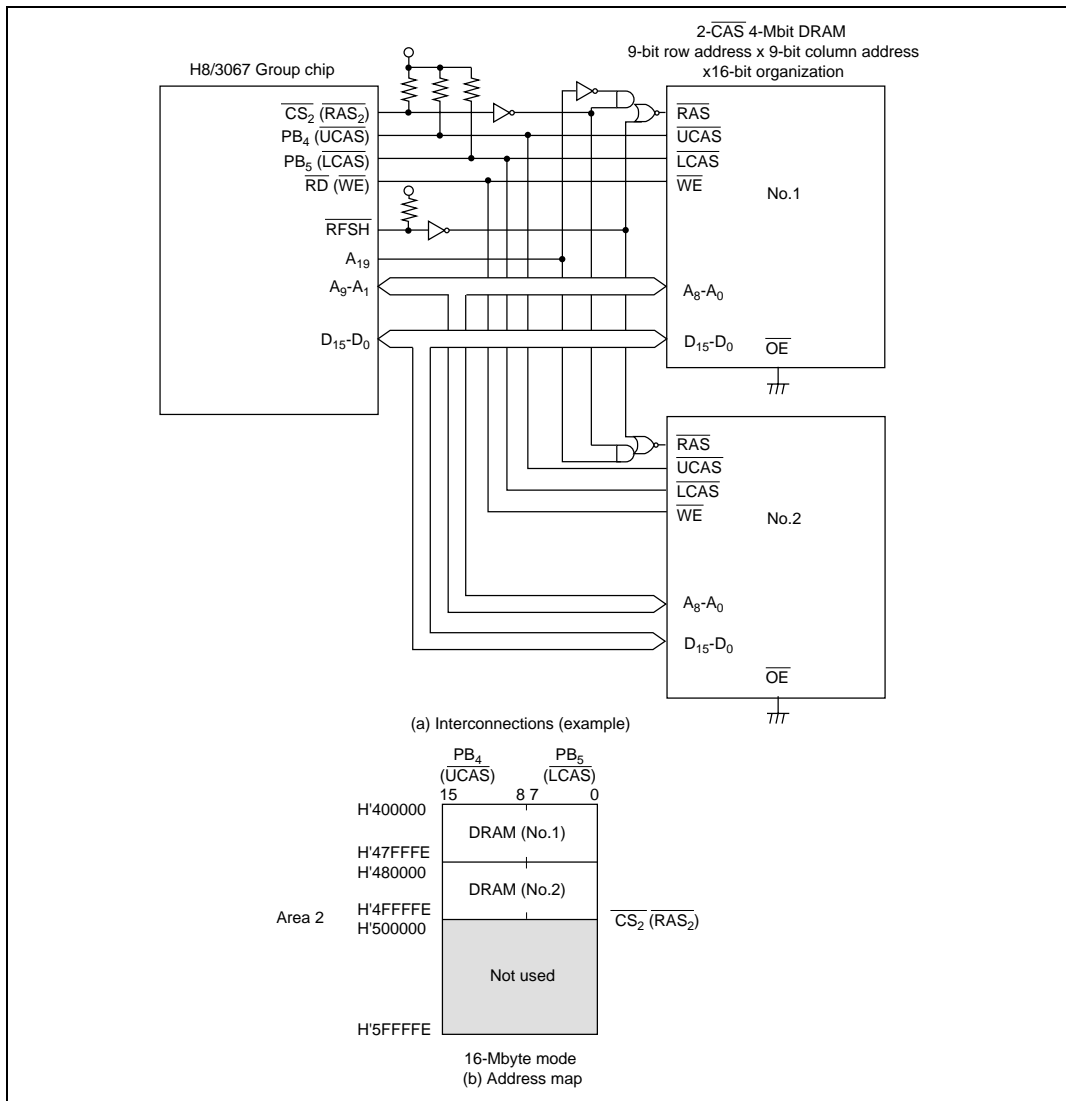

Figure 6.33 Interconnections and Address Map for 2-CAS 4-Mbit DRAMs with \times 16-Bit Organization
- Figure 6.33 shows typical interconnections when using two 4-Mbit DRAMs, and the corresponding address map. The DRAMs used in this example are of the 9-bit row address \times 10-bit column address type. In this example, upper address decoding allows multiple DRAMs to be connected to a single area. The $\overline{\text{RFSH}}$ pin is used in this case, since both DRAMs must be refreshed simultaneously. However, note that RAS down mode cannot be used in this interconnection example.